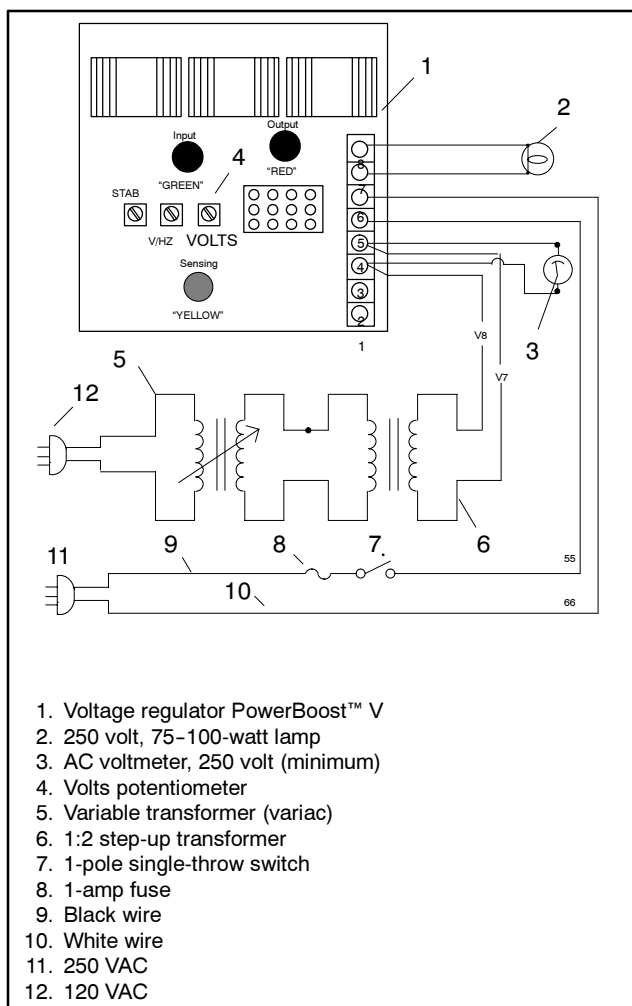

Figure 5-21 Voltage Regulator A-Board
1. Connect components as shown in Figure 5-21. If a 200–240-volt power source is available, the step-up transformer is not required.
2. If plug (item 10) is 250 volts, use 250 volt lamp. If plug is 120 volts, use 120 volt lamp.